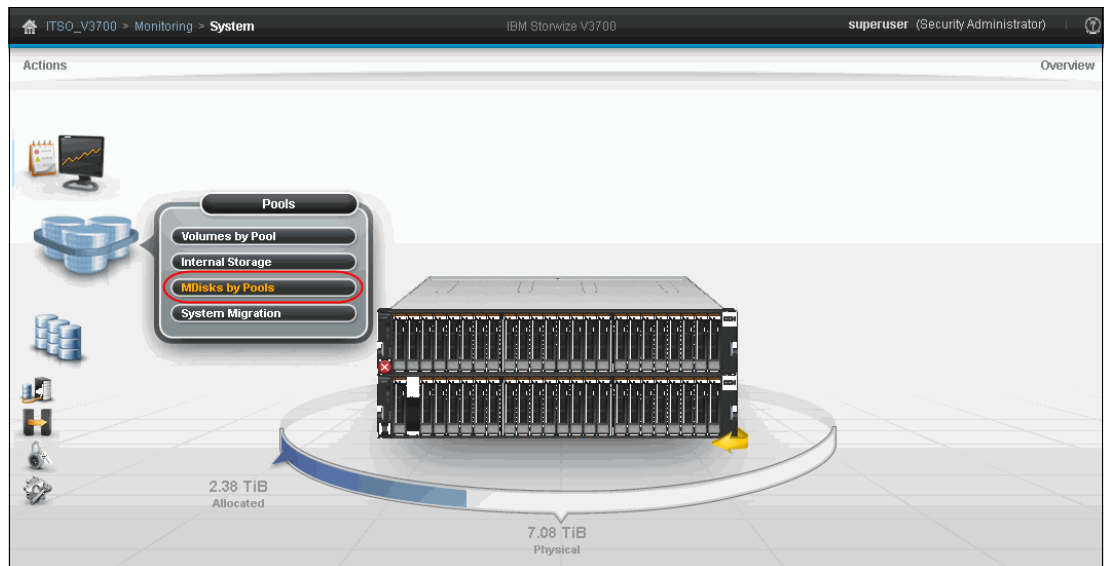

Figure 7-58 Pools from MDisk by Pools window
2. An alternative path to the Pools window is to click **Pools** → **MDisks by Pools**, as shown in Figure 7-58.